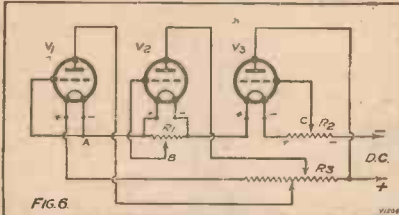

FIG. 6
One useful method of taking G.B. and H.T. taps is shown in Fig. 6, and by shifting valves around freedom from hum may very often be obtained. This only applies if the filaments are run in series, as they usually are when driven from D.C. mains.
The three methods of getting G.B. shown in Fig. 6 are as follows: (A) The grid of V_1 is at zero potential, since the grid return is connected to the negative filament of the valve. A positive bias equal to the voltage drop across the valve fila-